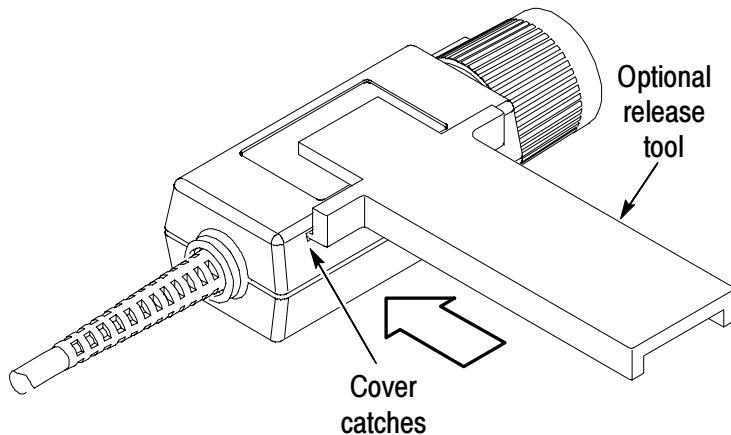

Figure 22: Removing the compensation box covers
1. Press the optional release tool pins into the compensation box cover catches and gently lift the cover off a small distance. Refer to Figure 22.